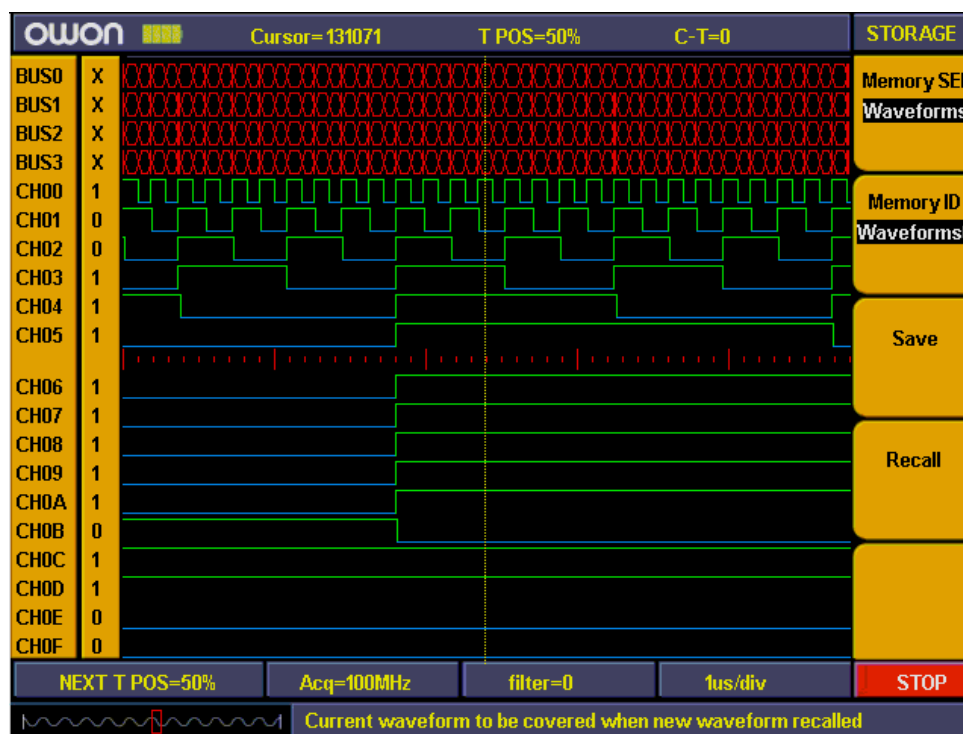

Fig.5-74: Waveform saving
8. Press "F4" to recall the memory waveform or settings (refer to **Fig.5-74**)